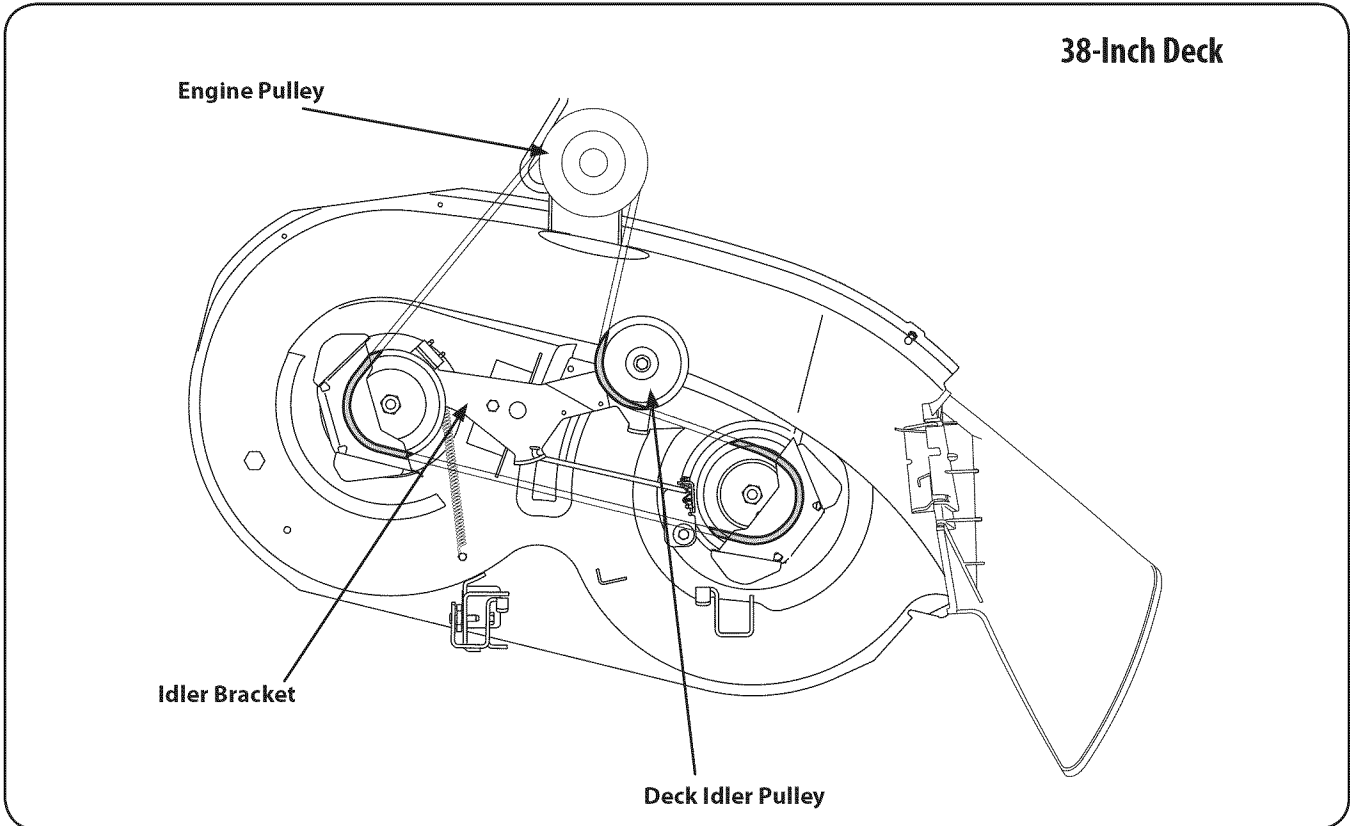

Figure 7-8
- Route the new belt as shown in and Fig. 7-8, 7-9 or 7-10, depending on your specific sized deck.